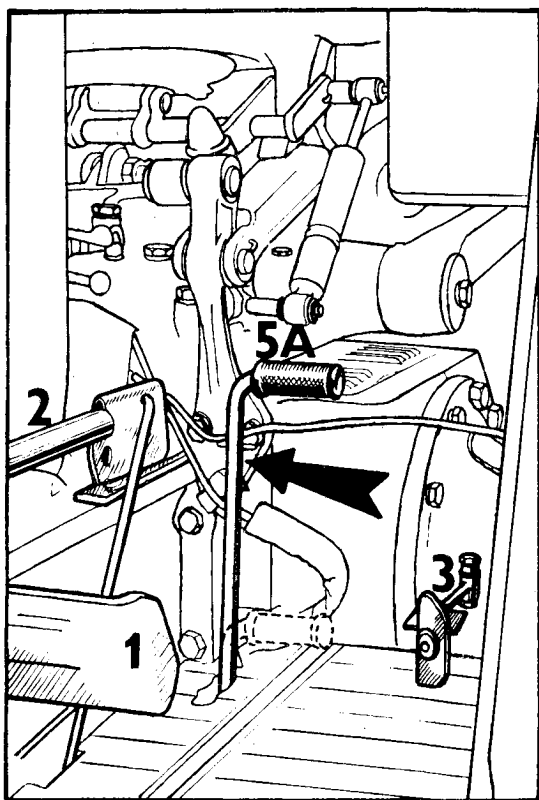
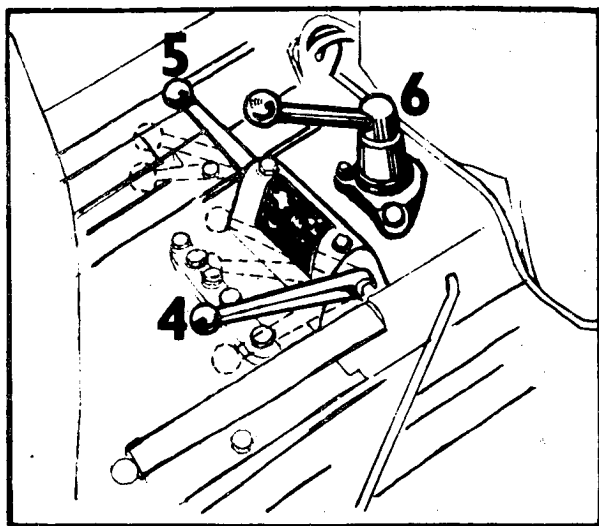

Fig. 3
Fig. 4
1. Travel clutch pedal (Fig. 3/1).
2. Hand controlled disengagement of the PTO clutch (Fig. 3/2): lower position means that the PTO clutch is engaged, upper position — PTO clutch is disengaged. Hand operated PTO clutch disengagement can be carried out for a short period only. There is a left-hand shifting lever, placed on the gearbox cover which serves for permanent disengagement of the PTO (Fig. 4/4.)
3. Torque multiplier control pedal (Fig. 3/3) (on Z 6911 and Z 6945 tractors with and without safety cab).
4. Both the PTO and hydraulic power lift control lever (Fig. 4/4):
5. Reduced and road speeds control lever (Fig. 4/5):
- 5A. Front axle drive control lever (Fig. 3/5A):
6. PTO revolution control lever (Fig. 4/6) (on Z 6911 and Z 6945 tractors with and without safety cab) when the control lever is displaced forwards — in the sense of the tractor travel — it is in its neutral position; if the control lever is displaced to the left — 540 RPM of the PTO are engaged, if it is displaced to the right — 1000 RPM of the PTO are engaged.